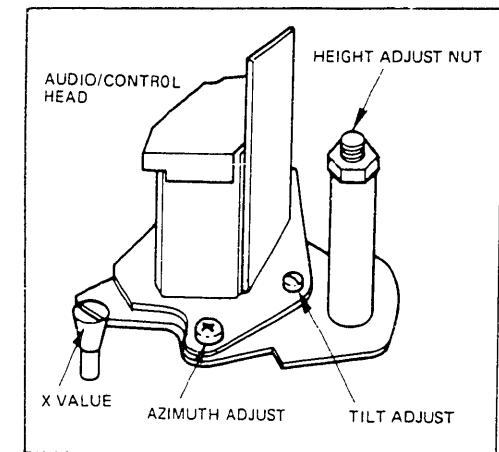

Fig. 24
- 2) Play back the audio 7 kHz signal (video signal becomes a step wave at that time) of the alignment tape, turn the tilt adjustment screw shown in Fig. 24 a little to adjust so that the audio output level is max.